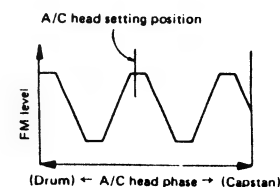

Fig. 2-52
9. Slowly turn the tool and set the audio/control head assembly to the position where the second maximum peak FM level is obtained. See Fig. 2-52.